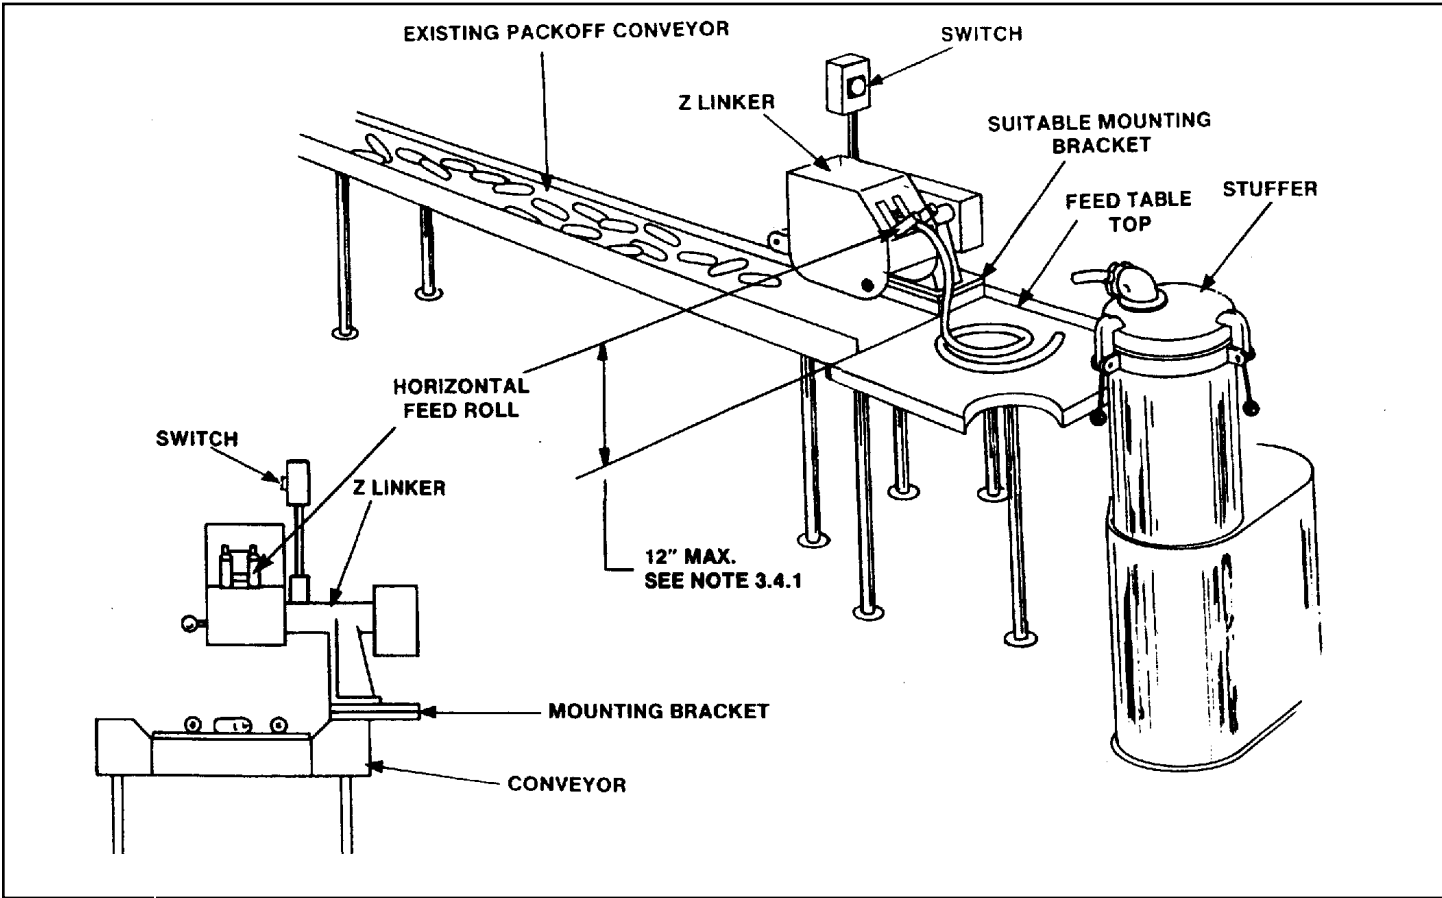

Figure 3-2 Z Linker with single conveyor installation.
- Distance from horizontal feed table to feed roll not to exceed 12 inches. See Figure 3-2.
<p>D. Miss-cut (double link). Machine does not cut every link. Links are continuous to about 8 inches in length or double the required 4" size. Linker Torsion Springs do not compress.</p>	<ul style="list-style-type: none"> <li>a. Examine Linker Torsion Springs, Isolate faulty spring.</li> <li>b. Remove any obstructions that would cause the Torsion Spring to keep blades in an open position.</li> <li>c. Stop Machine. Remove and replace any faulty Torsion Spring. Refer to Section V for guidance.</li> </ul>  <p>Figure 6-2 Miss-cut or 8" link.</p>  <p>Figure 6-3 Link shoulder break.</p> <ul style="list-style-type: none"> <li>a. Check for obstruction in Linking Head Sub-Assembly cutter insert (See Figure 6-1).</li> <li>b. Check Z-Bar position in relation to insert cutting edge.</li> <li>c. Check vertical distance of feed roller from feed table. It should not exceed 12". See Figure 3-1 and Figure 3-2.</li> <li>d. Check for over stuffing.</li> <li>e. Check for incorrect wet-out conditions.</li> <li>f. Check blade sets (Part # 05x02) for misalignment, looseness or deformity replace entire assembly.</li> </ul>